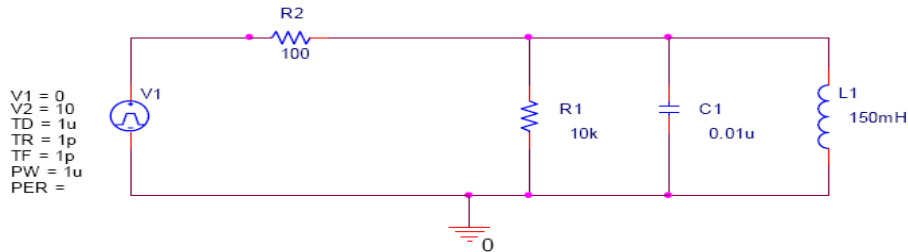

Figure 6 - Circuit diagram
b) Let's draw a simple RLC circuit. You will find the parts you need by typing the name of the part in the Part section and clicking "OK." So, let's draw the circuit below. For the schematic shown in Figure 6, you need one VPULSE, two R/ANALOGs, one C/ANALOG and one L/ANALOG. If you cannot find the voltage source in the "Part List", use "Add Library" button to add all the library files in the "advanls" directory, which is a sub-directory right below the "Pspice" directory (dependent upon the version of PSpice).